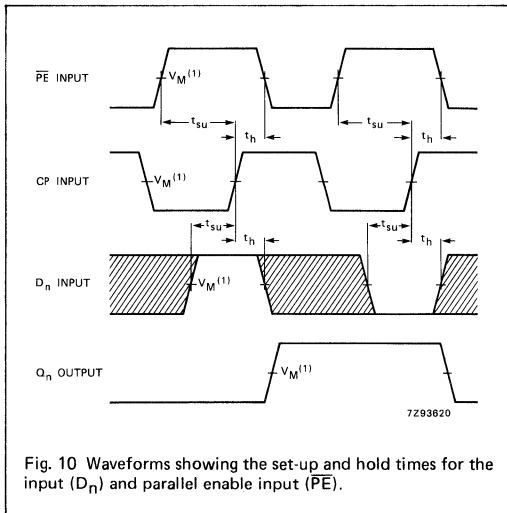

Fig. 10 Waveforms showing the set-up and hold times for the input (Dn) and parallel enable input (PE).
**Note to Figs 10, 11 and 12**